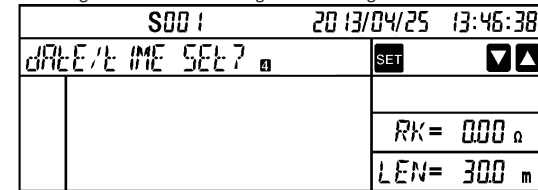
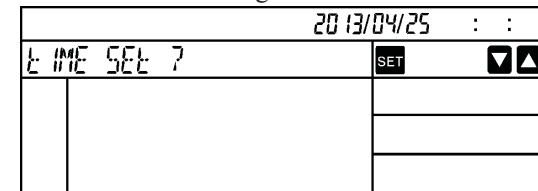
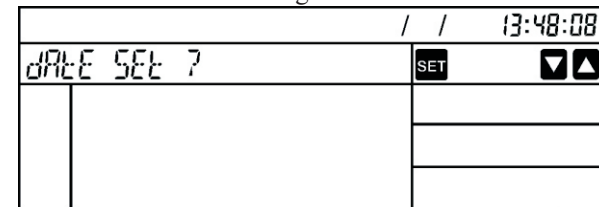

Fig.16
Fig.17
Fig.18
Press the ESC when settings are done to return to the Date Set ? (Fig.18) .
Press the ESC Key again to exit from the setting mode and return to the CONFIG-SETTING Screen (Fig. 16) .
This instrument has a clock function and can save the measured data with time and date information. The clock will not be reset once it has been set even after powering off the instrument. A manual adjustment is required to keep the clock time always right. Time setting can be done in following procedure. Select Date/Time Set ? (Fig. 16) with the Cursor Key on the CONFIG-SETTING Screen, and press the ENTER/SAVE Key to display the Time (Fig. 17) and Date (Fig. 18) Setting Screen.
(1) Time Setting (24-hour display) Press the arrow keys to Time Set ? (Fig. 17) and the time number in the LCD is flashing. Press the ENTER/SAVE Key, and display the time Setting Screen.
Press the ESC when settings are done to return to the Time Set ? (Fig. 17) .
Press the ESC Key again to exit from the setting mode and return to the CONFIG-SETTING Screen (Fig. 16) . Then the clock starts.
Press the arrow keys to Date Set ? (Fig. 18) and the date number in the LCD is flashing.